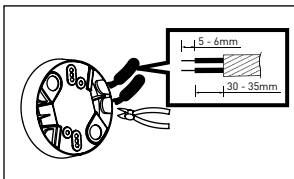

Figure 6
2. To feed KNX bus cables through the side of surface mount box, please use the cutting pliers to break the cable entry knockouts on the side of surface mount box, then feed the KNX bus cables through the entry and into the surface mount box. Strip off 5 - 6mm of cable sheathing for wiring (Fig. 6).